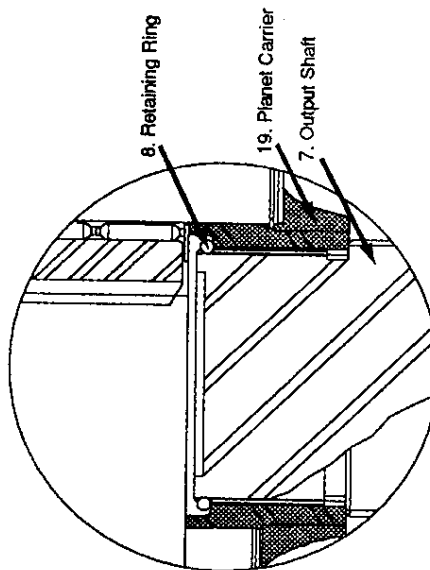
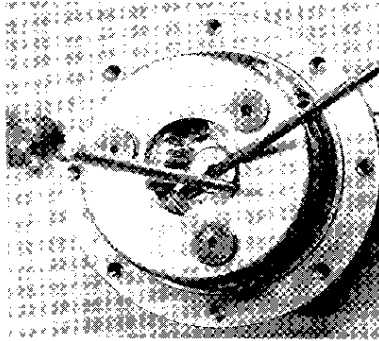

Fig. 2
Fig. 3
9. Remove sungear (31) from small planet gears (35).
10. Remove small planet carrier assembly (25) from large planet gears (40).
11. Remove six bolts (21) from transition plate (20).
12. Remove transition plate (20) from housing/internal gear (11).
13. Remove 'O' rings (13) from internal gear/housing (11).
14. Remove retaining ring (8) from groove in shaft (7). (Fig. 2 & 3)
Note: (8) is a wirelock retaining ring that retains the planet carrier assembly (19) on the output shaft (7). This locking ring must be pried out of the locking ring groove to remove the planet carrier assembly (19). This typically is accomplished by inserting two long screwdrivers between the planet gears and carefully working the wirelock out of the locking groove. (Fig. 2 & 3)
15. Lift planet carrier assembly (19) from shaft (7).
16. Bend tab on lock washer (17) away from lock nut (18).
19. Lubricate spline end of shaft (7), lay retaining ring (8) on end of shaft. (Fig. 2) Slide large planet carrier assembly spline onto shaft spline. Reach through the planet carrier and seat retaining ring (8) into groove at end of shaft (7). (Fig. 3) This is best accomplished using two long screwdrivers. (Fig. 3)
20. Lubricate and place 'O' ring (13) onto pilot of transition plate (20).